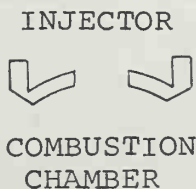

Fig. V1-11—Install heat shield so concave side is towards combustion chamber.
Before installing injector, be sure injector bore and seating surface in head are clean and free of carbon. Install heat shield (9) with concave side towards combustion chamber as shown in Fig. V1-11. Install injector and tighten to 68.6 N·m. Reconnect injector lines.